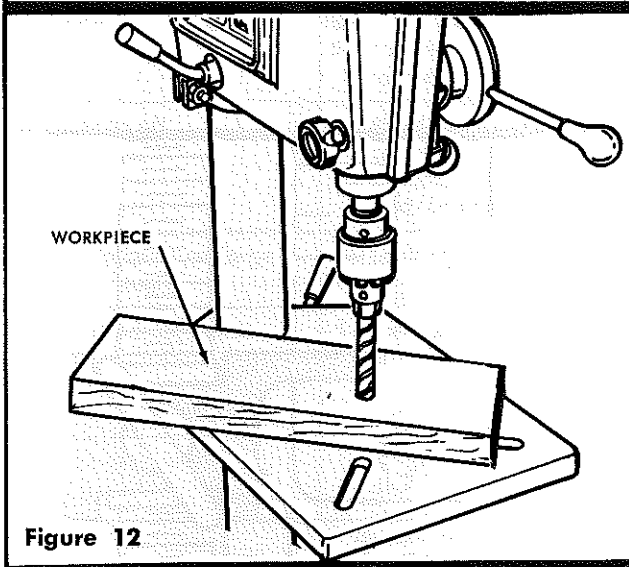

Figure 12
6. **Preventing Movement of Workpiece When Drilling.** To prevent work from being torn from operator's hands, position wood or metal items against the left side of the column. (See figure 12.) If a workpiece is too short to reach the column, clamp it to the table or use a drill vise. Reduce rate of feed when drill starts to break through metal workpiece to prevent "grabbing" by the drill.